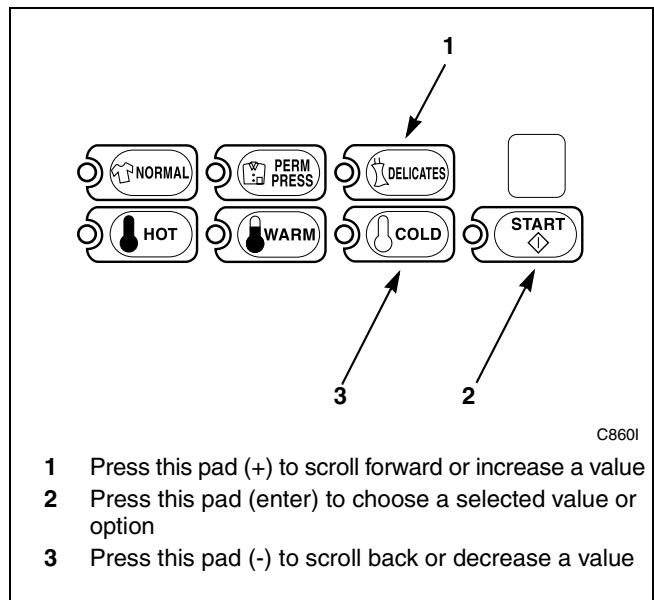

Figure 21
5. Press the DELICATES (+) or the COLD (-) keypad to increase or decrease the value of the fifth digit. Refer to *Figure 21*.